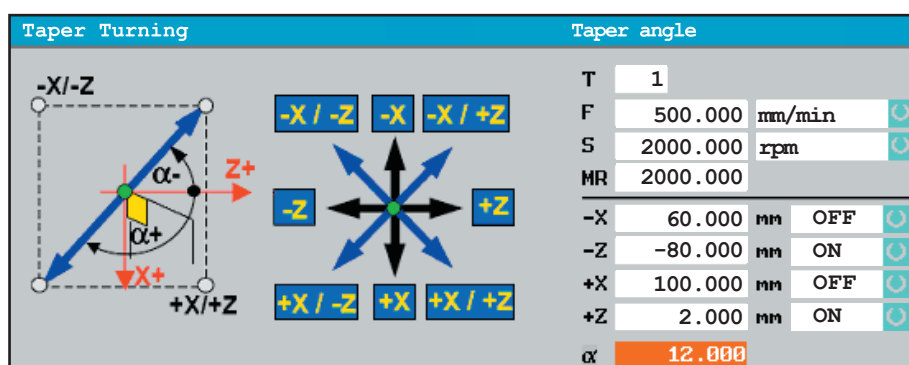

Figure 4-4. “Taper turning” mode screen
- **Fill in heading** data, according to item 4.1
- **Enter** the desired **angle** value for movement (see figure 4-4)
- **Move** axes through **JOYSTICK** located at electronic apron, reminding this positioning will indicate traversing direction (see figure 4-4)